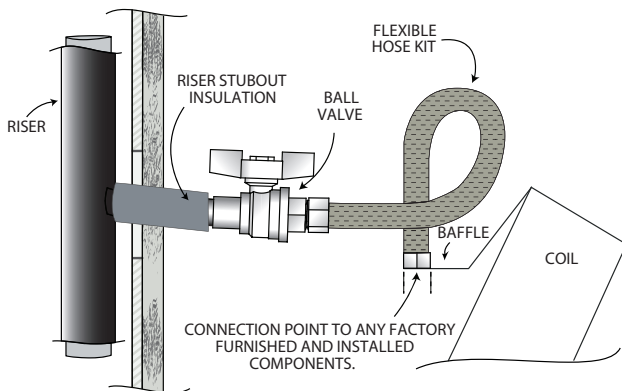

Fig. 21 — 42SU Unit Riser to Unit Installation
- All universal stack units use reinforced braided stainless steel flexible hose kits for piping between field-installed risers and unit water coils as shown in Fig. 21. The hose kit design has threaded connections on each end. The hose kits allow for riser fluctuations due to thermal expansion.